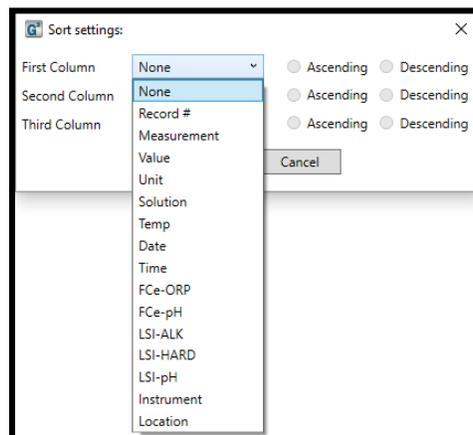

Figure 42
- Use the drop down menus from this window to select a data column for each of the desired sort keys. (Figure 42).